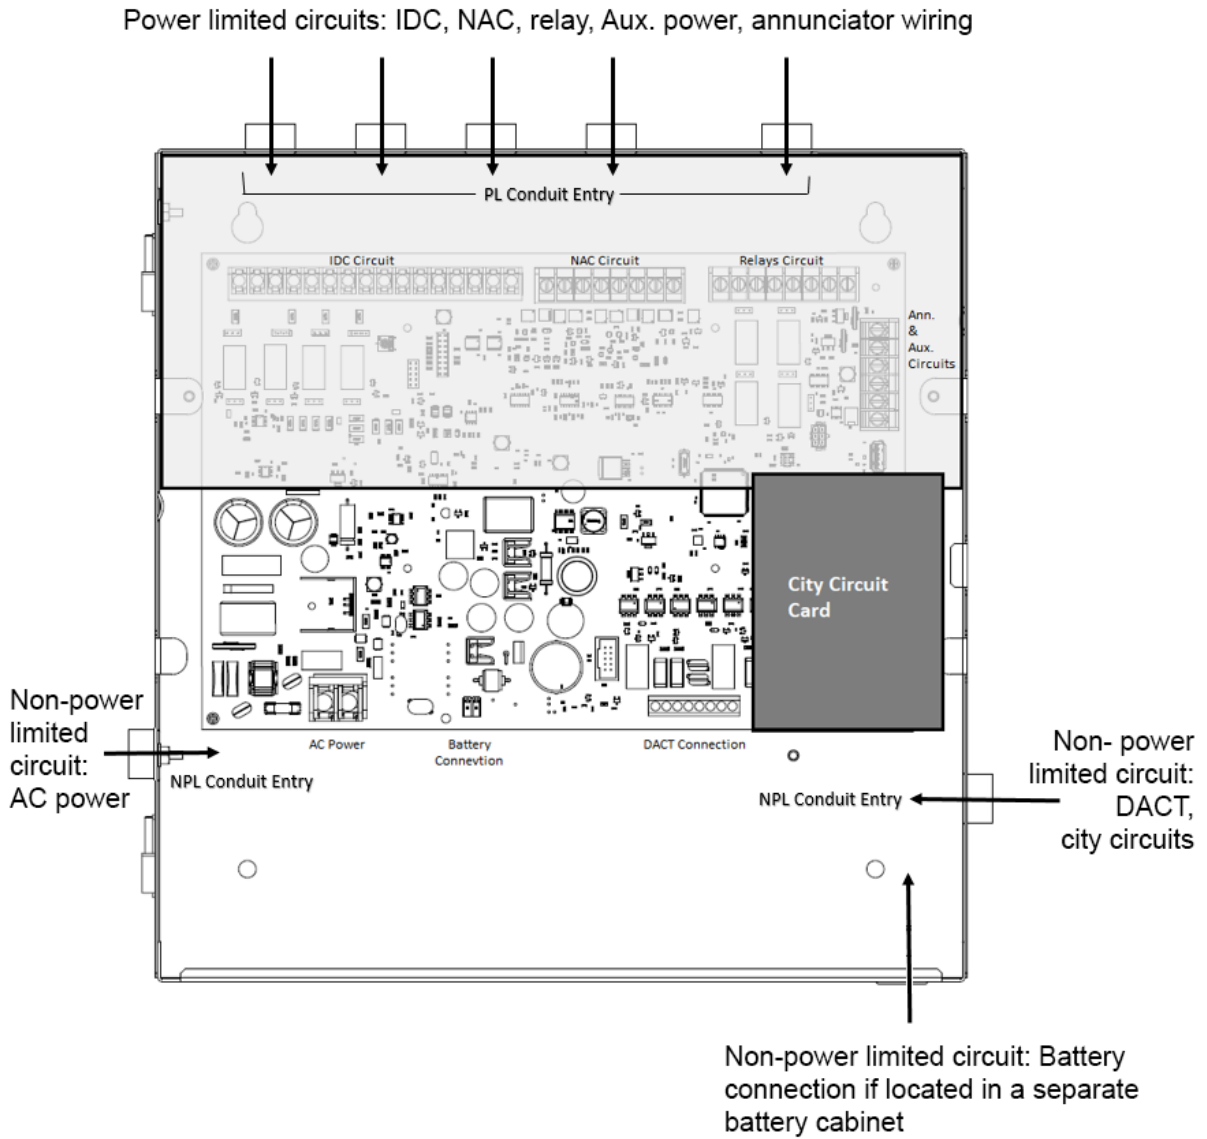

Figure 7: Power limited (shaded) and non-power limited wiring areas
1. Install and route PL field wiring, for example, IDC, NAC, and Aux, in the shaded areas shown in Figure 7.